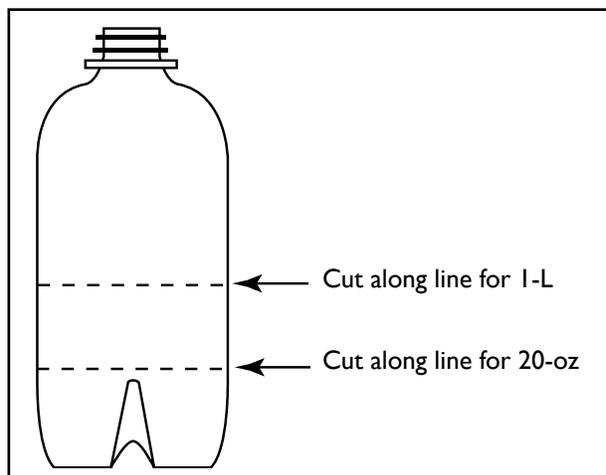

Figure 1. Cutting the plastic soda bottle.
2. Using a utility knife, cut away the bottom half of a 1-L bottle or the bottom quarter of a 20-oz bottle (see Figure 1).